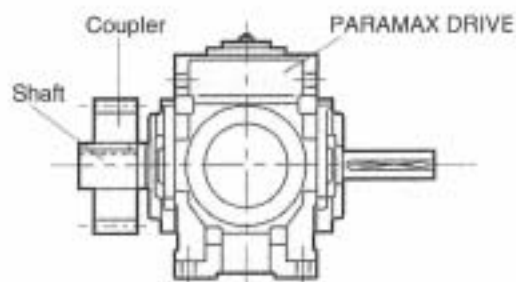
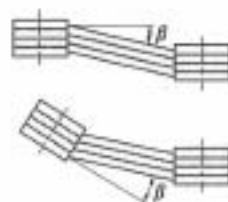

Fig. 4
Fig. 5
(2) Use of chain, sprocket, and gear
- Locate the sprocket and gear as close to PARAMAX DRIVE as possible so that the point of application of the load will be closer to the PARAMAX DRIVE'S vertical centerline. (Fig. 4)
(3) Use of V belt
- Eccentricity of parallelism between two pulleys shall be less than 20'. (Fig. 5)